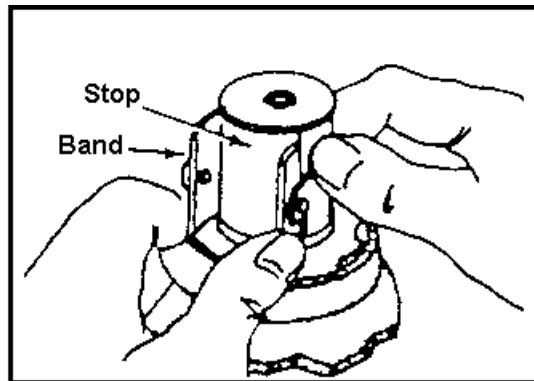

Figure 051-192-1118-1
**REMOVE AN M21 ANTITANK (AT) MINE****051-192-1118**
- b. Attach the band and the stop to the fuze (Figure 051-192-1118-1).